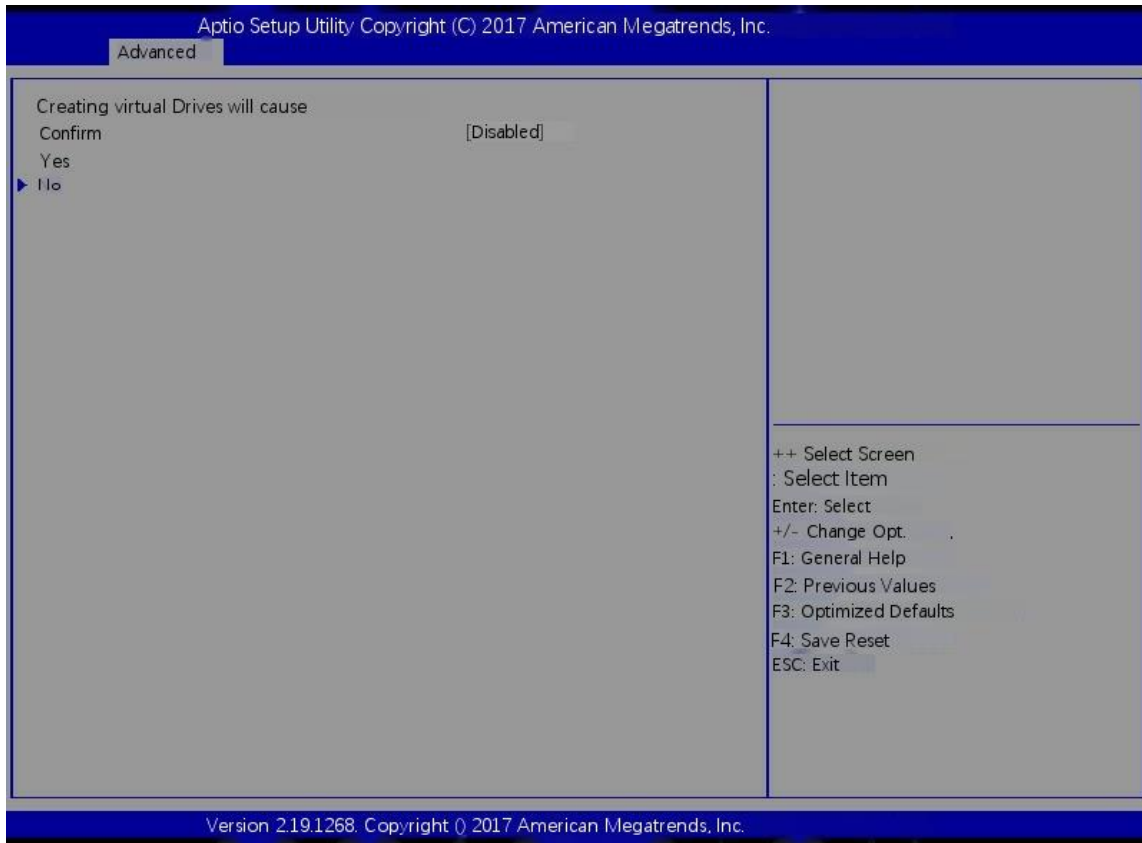

Figure 6-14
h) Enter the interface shown in Figure 6-14, select confirm to enable it, select Yes, and press enter.